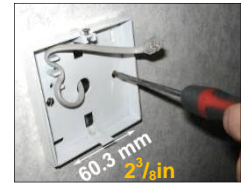

Fig 7
- Step 2** Feed one end of the RJ control cable through the switch box, feed and secure the RJ control cable through the back case and secure back case to switch box using 2 mounting screws (not supplied) (see Fig 7).